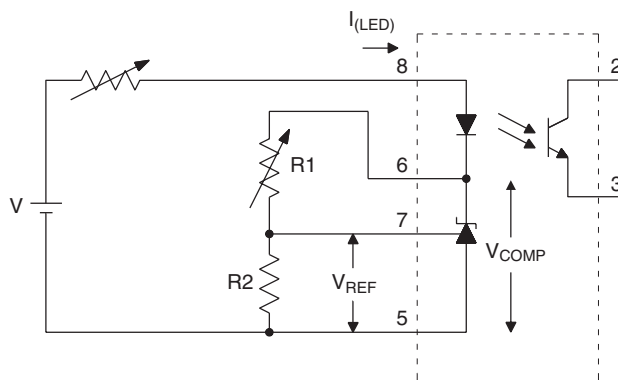

FIG. 2. $\Delta V_{REF}/\Delta V_{COMP}$ TEST CIRCUIT
2. The dynamic impedance is defined as $|Z_{OUT}| = \Delta V_{COMP}/\Delta I_{LED}$. When the device is operating with two external resistors (see Figure 2), the total dynamic impedance of the circuit is given by: